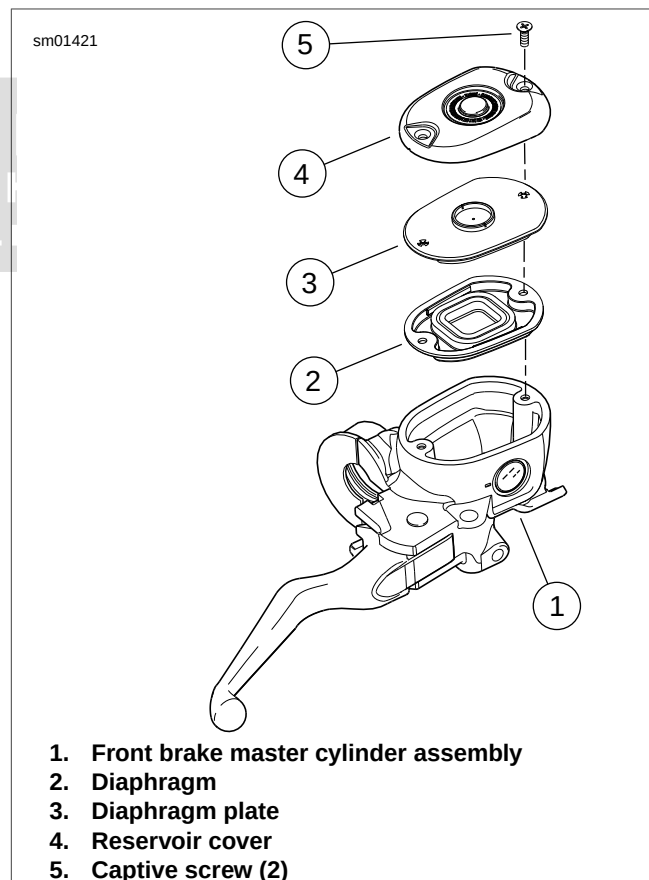

Figure 1-10. Front Brake Master Cylinder Cover Assembly (Typical)
- See Figure 1-10. Remove reservoir cover (4) with two captive screws (5), diaphragm plate (3) and diaphragm (2) from master cylinder reservoir (1).
12. See Figure 1-10. Replace diaphragm (2), diaphragm plate (3) and reservoir cover (4) with captive screws (5). Tighten to 9-17 **in-lbs** (1.0-2.0 Nm).